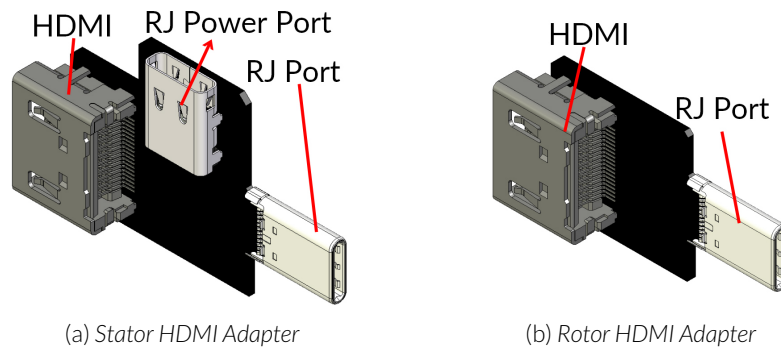

Figure 1.3: HDMI Rotary Joint Adapters
- The **HDMI** adapter (Fig. 1.3) is used with HDMI connectors.